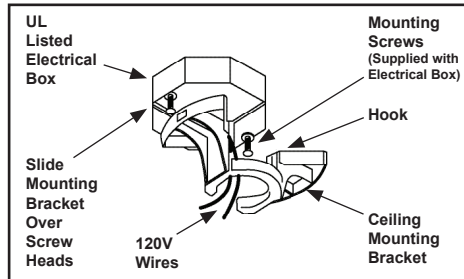

Figure 13
1. Pass the 120-volt supply wires through the center hole in the ceiling mounting plate as shown in Figure 13.
2. Install the ceiling mounting bracket on the outlet box, by sliding the mounting plate over the two screws provided with the outlet box (Figure 13). When using “close-to-ceiling” mounting, it is important that the mounting bracket be level. If necessary, use leveling washers (not included) between the mounting bracket and the electrical box.
Note that the flat side of the mounting bracket is toward the electrical box (Figure 13).